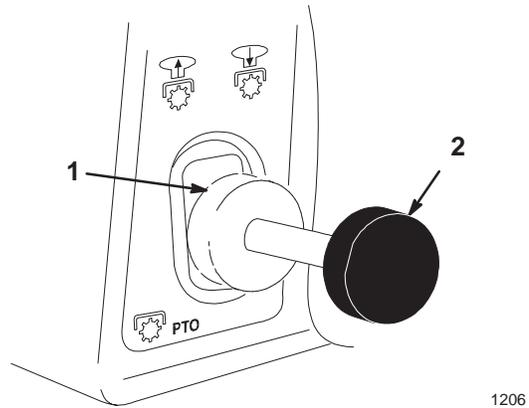

Figure 26
2. Pull the PTO knob out (Fig. 26).
2. Push the PTO knob in (Fig.26).